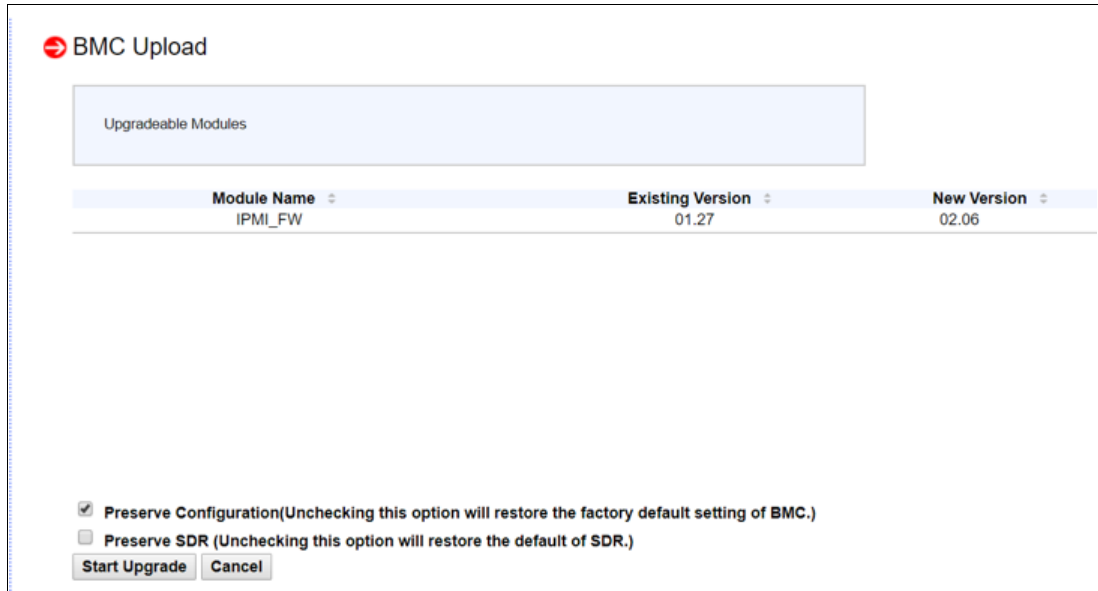

Figure 4-3 BMC Upload: Start Upgrade
5. The existing and new versions of the BMC firmware are shown in Figure 4-3 on page 61. Ensure that the **Preserve Configuration** check box is selected and the **Preserve SDR** check box is clear. Click **Start Upgrade**.